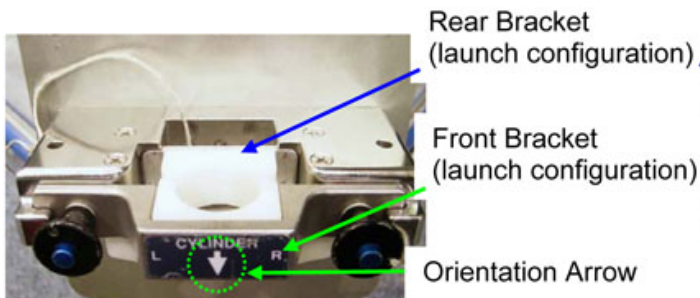

Figure 7.- Oxygen Bottle Retaining Bracket.
Refer to Figures 7, 8, 9.
- 3.4 Rotate and install rear bracket in recessed slot. Refer to Figures 7, 8, 9.